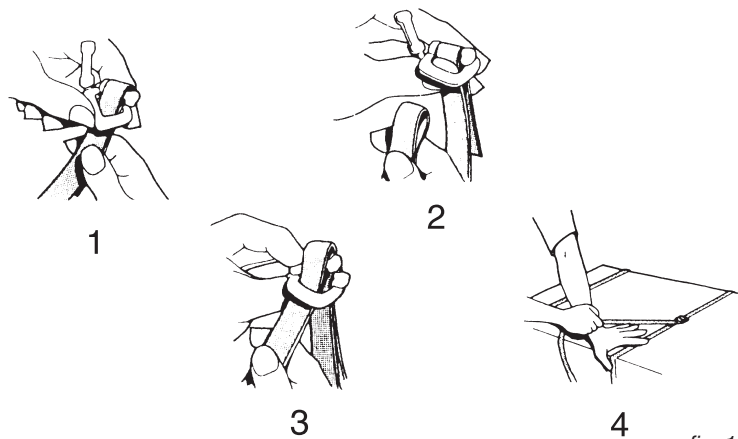

fig. 12
H) After fitting the fibre glass insulation onto the boiler body, pass the plastic strap provided around it, and insert an end part in the slot as shown in detail 1 (fig. 12).